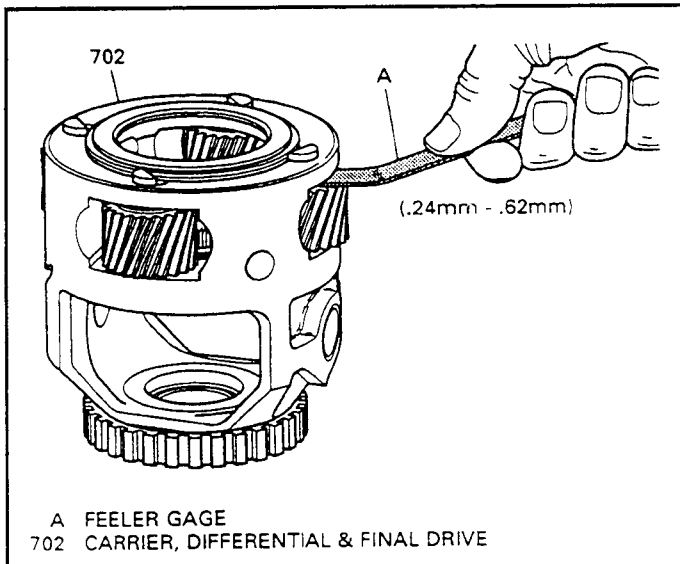

Figure 96
2. Check for proper pinion end play, with a feeler gage, as shown in Figure 96. Proper end play should be .009"-.025" (.24mm-.62mm).
22. Check planetary pinion end play with a feeler gage for proper end play as shown Figure 96. End play should be .009"-.025".